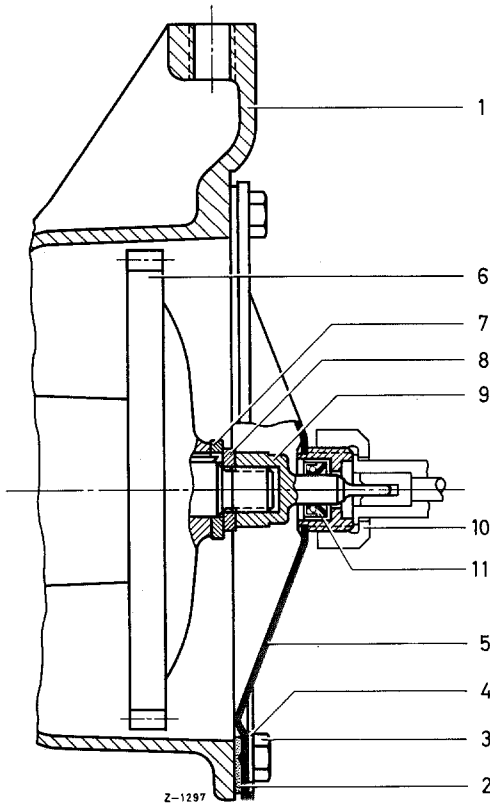

Figure 01-12/1
Change: Type underneath Figure 01-12/1 added and Note on Page 01-12/2 extended
2. Unscrew union nut (10) on the connection of revolution counter (see Figure 01-12/1).
3. Unscrew mounting screws (3) of cover (5) and remove cover (5) (see Figure 01-12/1).
4. Unscrew mounting nut (9) with lug for revolution counter drive.
5. Replace seal ring (11) in cover (5) (see Figure 01-12/1).
1. Unscrew union nut on the connection (1) of revolution counter (see Figure 01-12/2).
2. Unscrew mounting screws of flange on connecting hub (3) and remove hub with flange (see Figure 01-12/2).
3. Unscrew follower nut (2) for the revolution counter (see Figure 01-12/2).